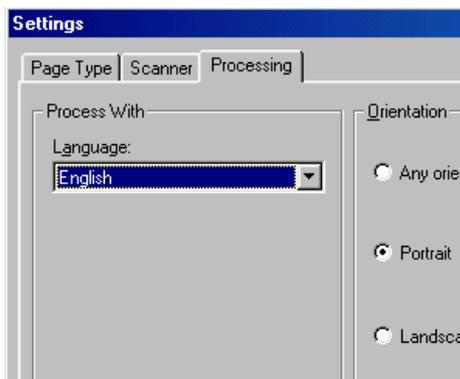

Figure 29: Selecting the language
9. Select the language you wish to use in the 'Process With' box (see figure 29).